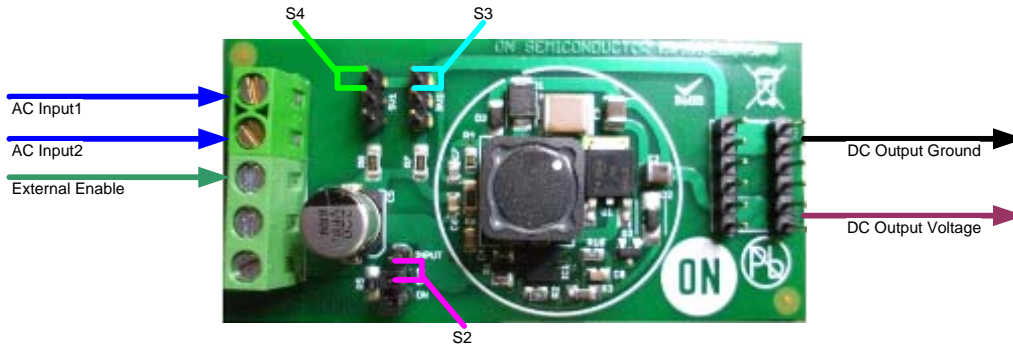

Figure 5: NCP3066 SEPIC AC Input with PCB Enable Setup
2. Shorting either S4 or S3 as shown in Figure 5 will place R7 and R6 current sense resistors in parallel with R8. The NCP3066 SEPIC demonstration PCB is configured to output 350 mA when the LED load is set to 7.2 V. Placing one resistor in parallel with R8 by connecting either S4 or S3 will increase the current to 700 mA. Once the aforementioned steps are completed, both S4 and S3 are shorted and the current limit will increase to 1.05 A.